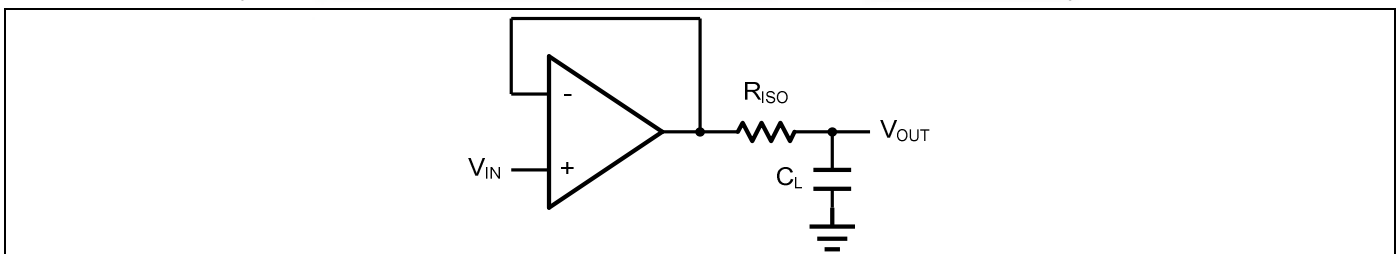
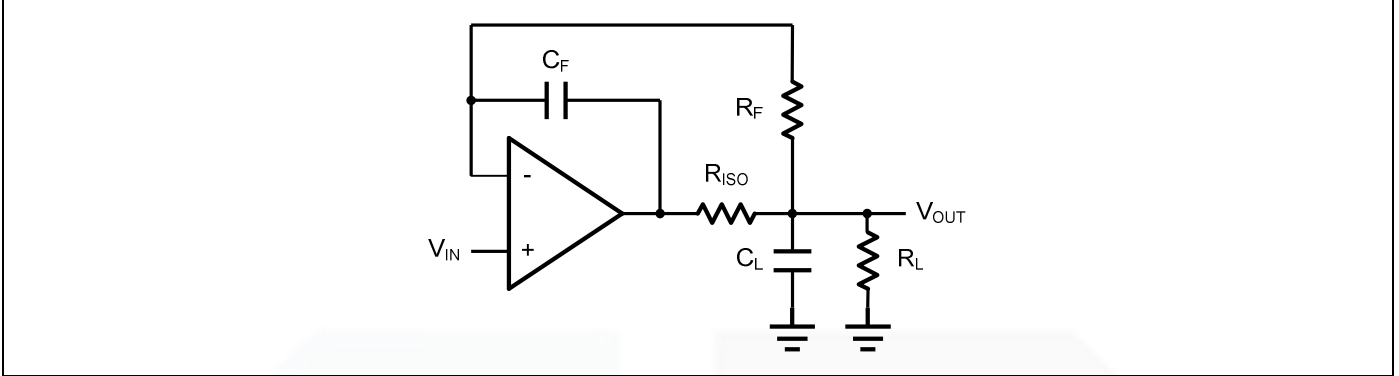

Figure 2. Indirectly Driving a Capacitive Load Using Isolation Resistor
Figure 3. Indirectly Driving a Capacitive Load with DC Accuracy
The GS863x family is optimized for bandwidth and speed, not for driving capacitive loads. Output capacitance will create a pole in the amplifier's feedback path, leading to excessive peaking and potential oscillation. If dealing with load capacitance is a requirement of the application, the two strategies to consider are (1) using a small resistor in series with the amplifier's output and the load capacitance and (2) reducing the bandwidth of the amplifier's feedback loop by increasing the overall noise gain. Figure 2. shows a unity gain follower using the series resistor strategy. The resistor isolates the output from the capacitance and, more importantly, creates a zero in the feedback path that compensates for the pole created by the output capacitance.
The circuit in Figure 3 is an improvement to the one in Figure 2.  $R_{\text{F}}$  provides the DC accuracy by feed-forward the  $V_{\text{IN}}$  to  $R_{\text{L}}$ .  $C_{\text{F}}$